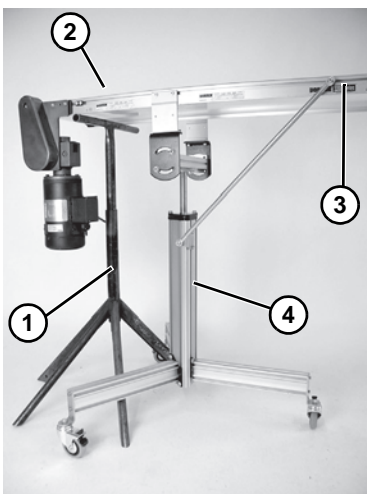

Figure 17
1. Place temporary support stand (Figure 17, item 1) under conveyor (Figure 17, item 2).
2. If installed, remove diagonal brace hardware (Figure 17, item 3) from the conveyor. Allow brace to rest against the trileg post (Figure 17, item 4).